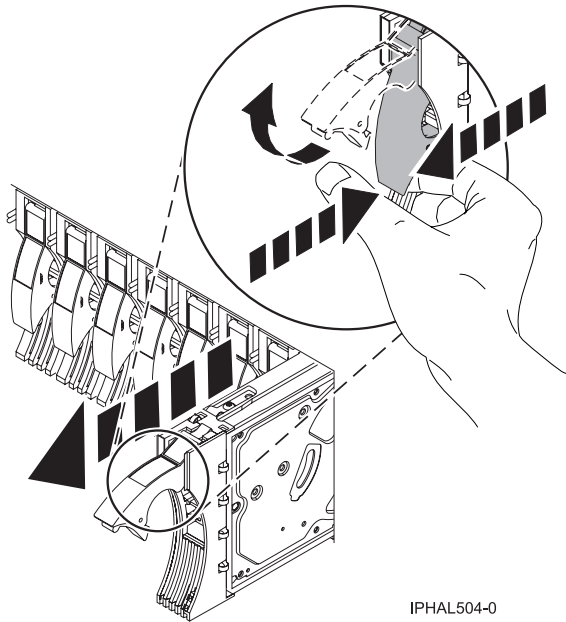

Figure 20. Removing a disk drive from the system
1. Unlock the drive handle by squeezing it and pulling it out toward you, as shown in Figure 20 on page 34. If the handle is not all the way out, the disk drive or solid-state drive cannot slide out of the system or out of the expansion unit.